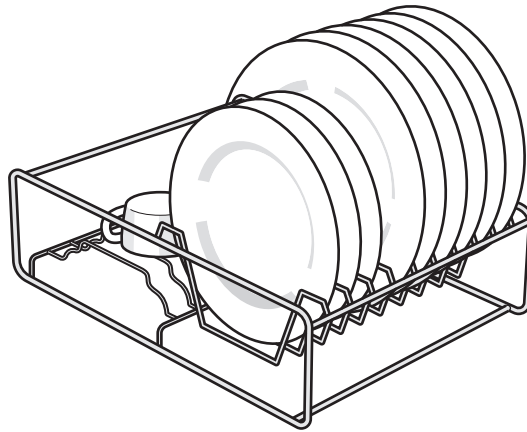

Fig. 8.1
- 8 Fig. 8.1 shows a draining rack used for drying crockery and cutlery. The draining rack is made from steel and has a plastic coated finish.